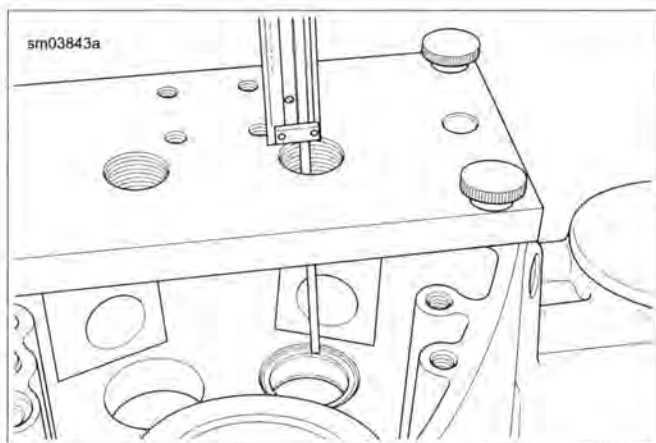

Figure 3-97. Measure from Top of Support Plate to Edge of Needle Bearing
- c. See Figure 3-97. Insert dial caliper through forcing screw bore and measure distance from top of support plate to edge of needle bearing.